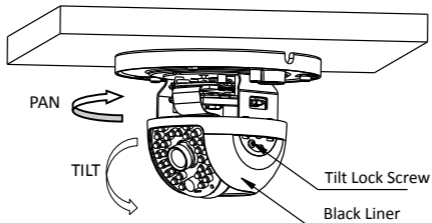

Figure 2-5 Pan/Tilt Angle Adjustment – Liner Removed
4. Loosen the tilt lock screws, adjust the tilt position in a range of 75 degrees, and tighten the tilt lock screws. Figure 2-5